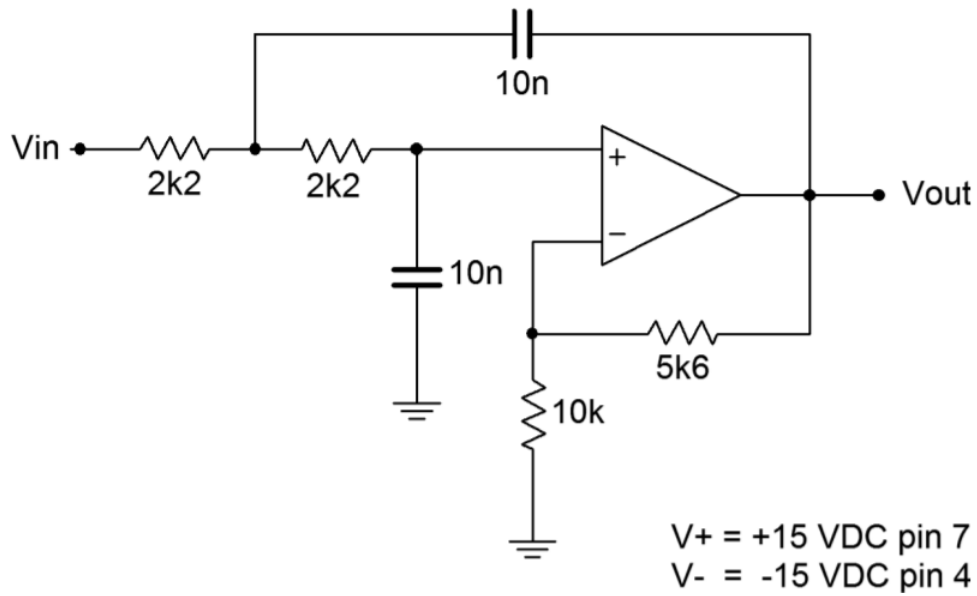

Figure 20.5.1
1. The circuit of Figure 20.5.1 is a second order low pass filter. Calculate and record the corner frequency (f_2) and mid-band voltage gain in Table 20.7.1.
2. Assemble the circuit of Figure 20.5.1.
14. Build the circuit of Figure 20.5.1 in a simulator and run an AC Analysis. Be sure to run the plot from 100 Hz to approximately 100 kHz and use a decibel scale for the gain amplitude. Compare the plot to the graph generated from Table 20.7.2.